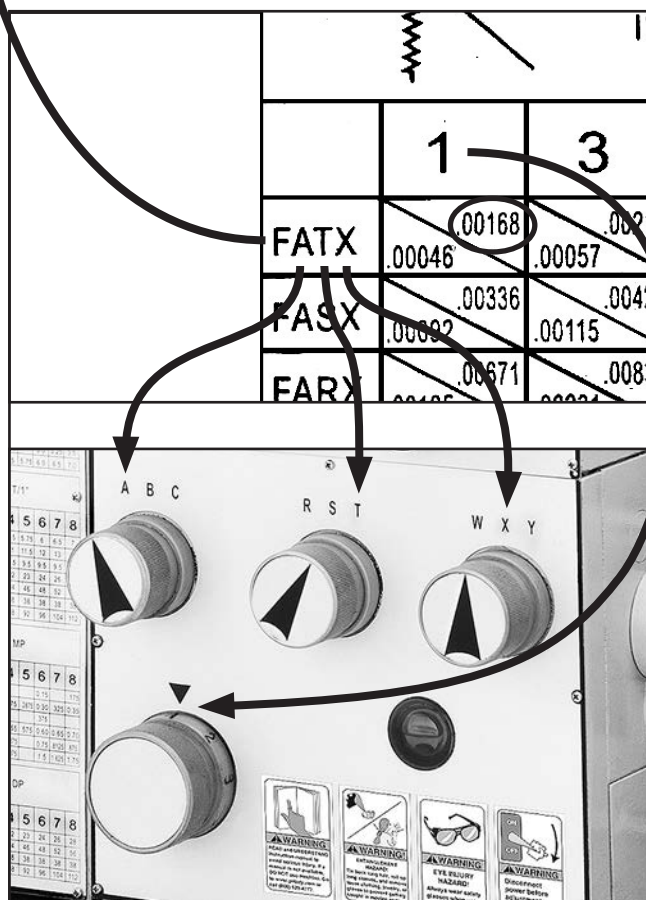

Figure 53. Feed control settings for a 0.00168" carriage feed rate.
- Move the feed dials to the combination of **FATX1**, as shown in **Figure 53**.